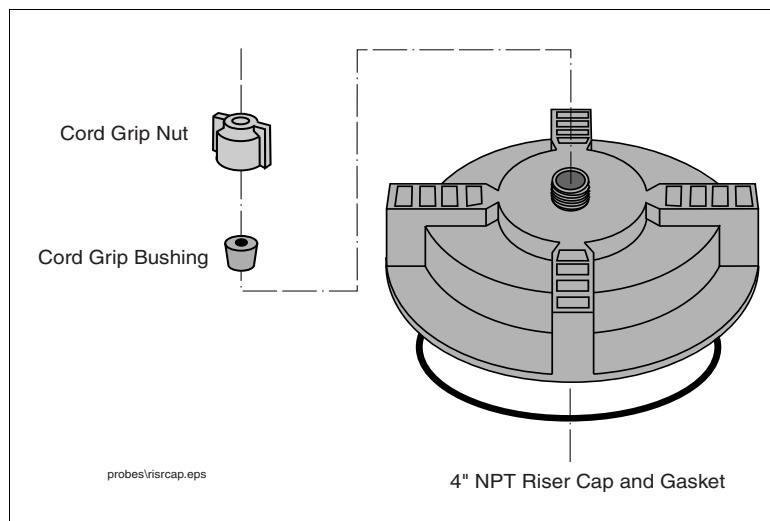

Figure 6. Cap And Cord Grip Kit
This Riser Cap kit (Table 4) contains a non-metallic cap which screws onto the 4" NPT riser (Figure 6). The cap comes drilled and tapped with a cord grip.
1. If you are using the one piece cap (see Figure 6 on page 9), push the end of the probe cable through the cord grip bushing and nut on the cap, leaving a minimal amount of slack between the probe and cap. Screw the cap onto the riser by hand until the gasket first contacts the pipe. Then lightly tap the cap with a hammer to tighten it an additional 3/4 turn. Go to Step 3.
1. If you are using the one piece cap (see Figure 6 on page 9), push the end of the probe cable through the cap and cord grip bushing, leaving a minimal amount of slack between the probe and cap. Discard the cord grip nut and attach the adapter Nut from the AST kit to the cap (see Figure 3 on page 6). Tighten the adapter Nut until the cable is held firmly. Go to Step 3.